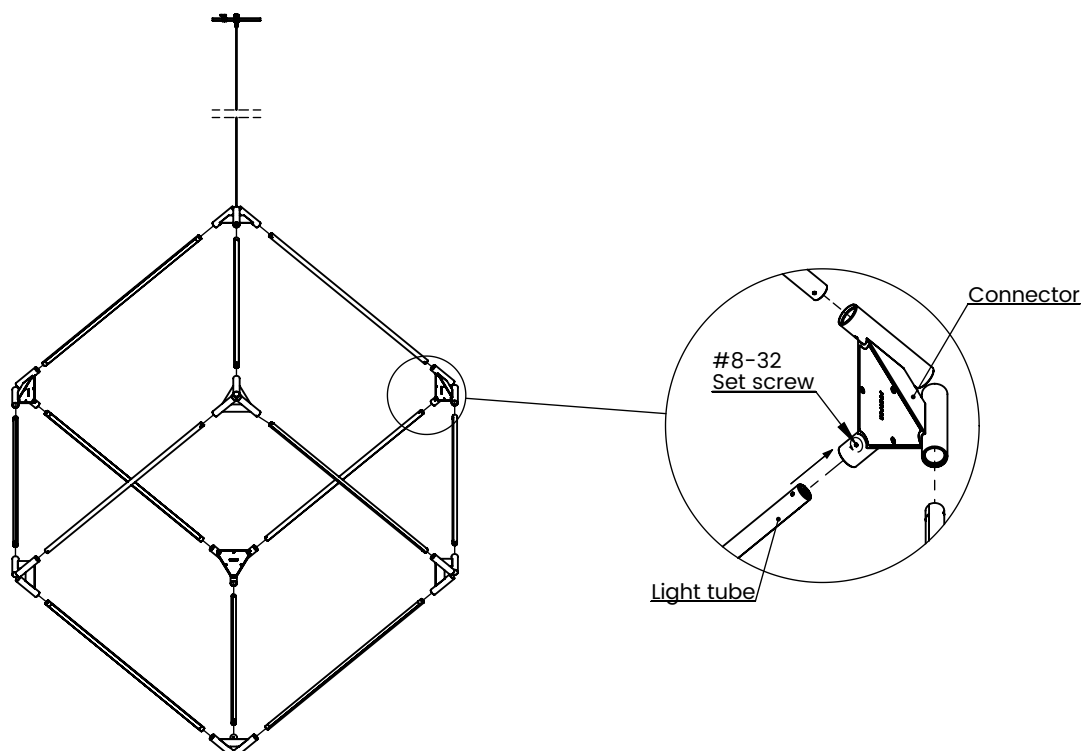

FIGURE 11
2. Insert the first light tube into the connectors and **tighten the set screws on the connectors** as shown in figure 11.